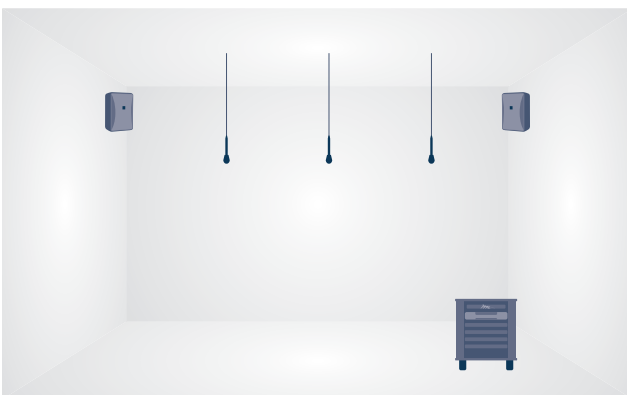

Figure 30
- Active Acoustic treatment (figure 30) is another way to solve the acoustical shortfall of practice rooms, and also provide musicians with virtual music environments that can be changed with the push of a button. These solutions are based on digital signal processing and computer models of acoustic spaces that are musically supportive. For these treatments to work, your room will first require a heavy application of absorptive material.